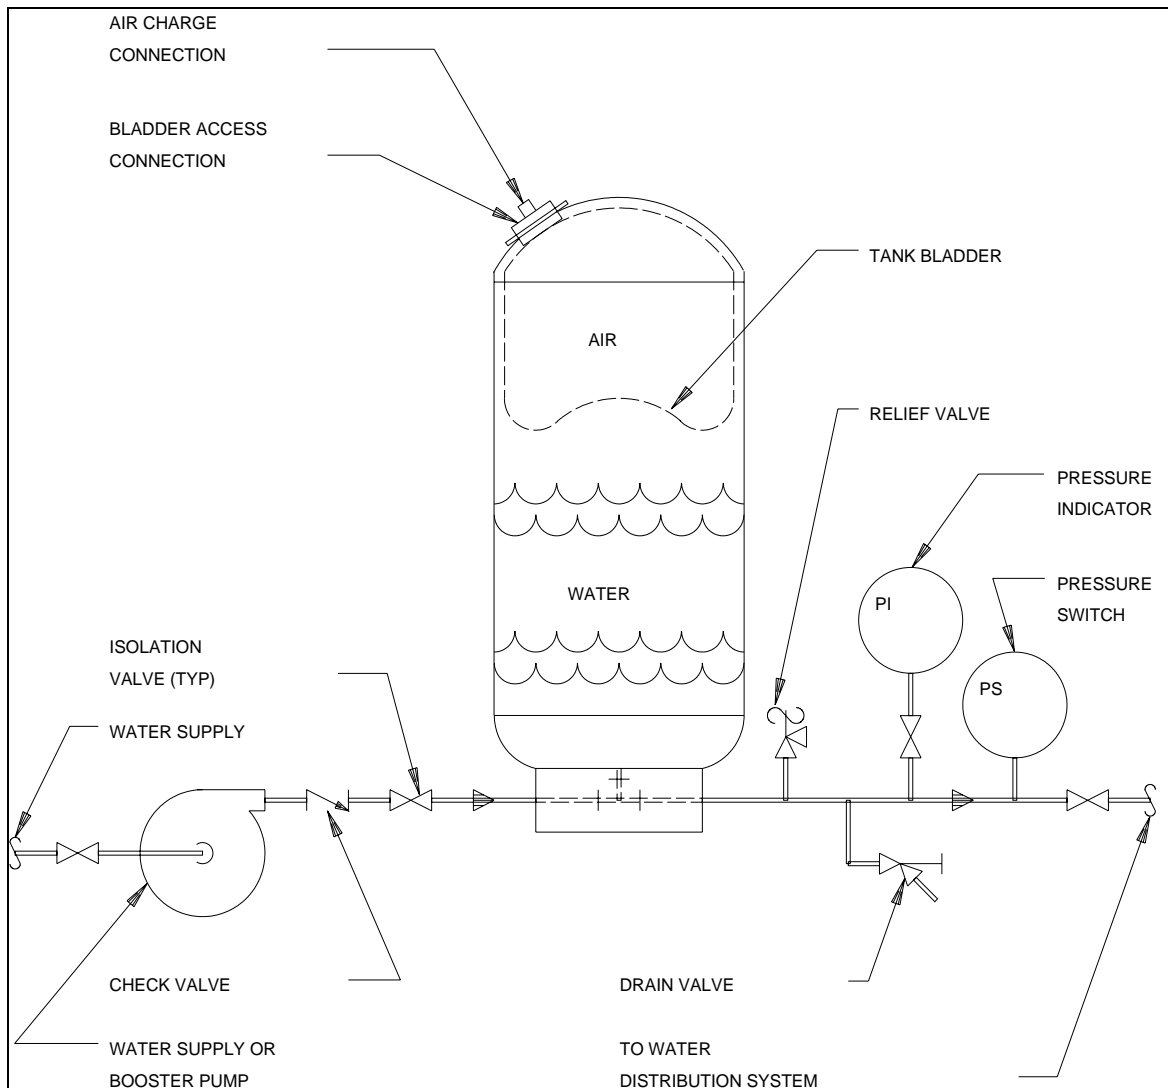

Figure 17-2. Bladder tank installation
(1) The discussion will focus on two types of aboveground tanks: ground-mounted and elevated. The elevated storage tank is used in flat-land areas where the terrain does not offer the advantage of a high point near the water use point in which a ground-mounted tank could be located. The elevated storage tank consists of a tank (usually steel), structural support legs, and water standpipe. The ground-mounted tanks are also usually constructed of steel, and are typically mounted on a concrete foundation. The pump and piping arrangement serving the storage tanks is dependent on the tank elevation. If the tank is well above the water use point (60 to 100 feet), the water supply is pumped into the tank to maintain a certain water level, and the tank is not pressurized. The water pressure at the use point is equivalent to the water elevation in the tank (100 feet = 43 psig). If the water storage tank is at or near the same elevation of the use point, the tank is usually pressurized if it is used as a constant water supply system. If the tank is used for emergency purposes only, it may have pumps on the discharge and then would not be pressurized.
(2) Reservoirs are typically underground concrete water storage structures. Typically the reservoir is not pressurized and is fed from a private or public water system, or in some cases may be spring fed. It is common for pumps to draw from the reservoir and pump into the pressurized water system at a facility. Reservoirs typically have an access for maintenance personnel and a vent to prevent pressure buildup.
(3) Bladder tanks, also referred to as hydropneumatic tanks, consist of a steel tank that is divided into an air section and a water section by a rubber bladder. The air section is charged with air to a pressure equivalent to the minimum desired pressure in the water supply system. A bladder tank is commonly installed on a private water supply system to provide some storage capacity and to act as a buffer for the supply pumps (figure 17-2). Typically, one third of the total tank capacity is available for storage (a 200 gallon tank would result in 70 gallons of useful storage).